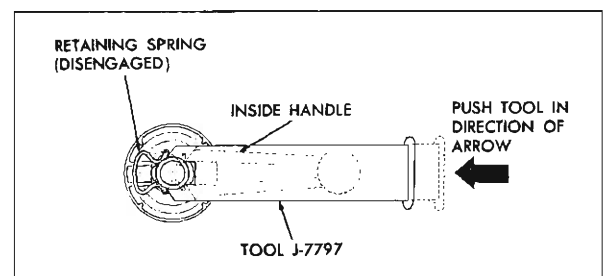

Fig. 3-4 Handle Retaining Spring
2. Position handle on spindle at same angle as handle on opposite door and push handle until spring is engaged (Fig. 3-4).